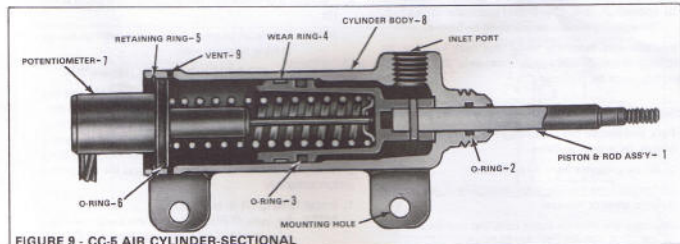

FIGURE 9 - CC-5 AIR CYLINDER-SECTIONAL
2. Remove accumulated grime from the outside of the CC-5 Air Cylinder with particular attention to the three body vents (Figure 9).
CC-5 AIR CYLINDER (Figure 9)
REMOVING THE CC-5 AIR CYLINDER (Figure 9)
DISASSEMBLY - CC-5 AIR CYLINDER (Figure 9)
ASSEMBLY - CC-5 AIR CYLINDER (Figure 9)
INSTALLATION - CC-5 AIR CYLINDER (Figure 9)